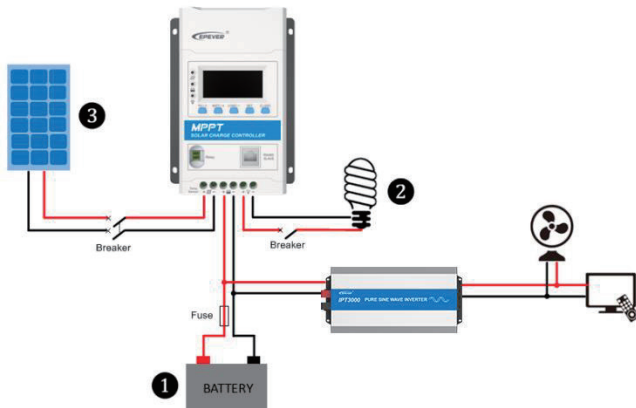

Figure 2-2 Schematic of wiring diagram
Step 2: Connect the system in the order of ① battery  → ② load  → ③ PV array  by Figure 2-2, "Schematic Wiring Diagram" and disconnect the system in the reverse order ③ ② ①.